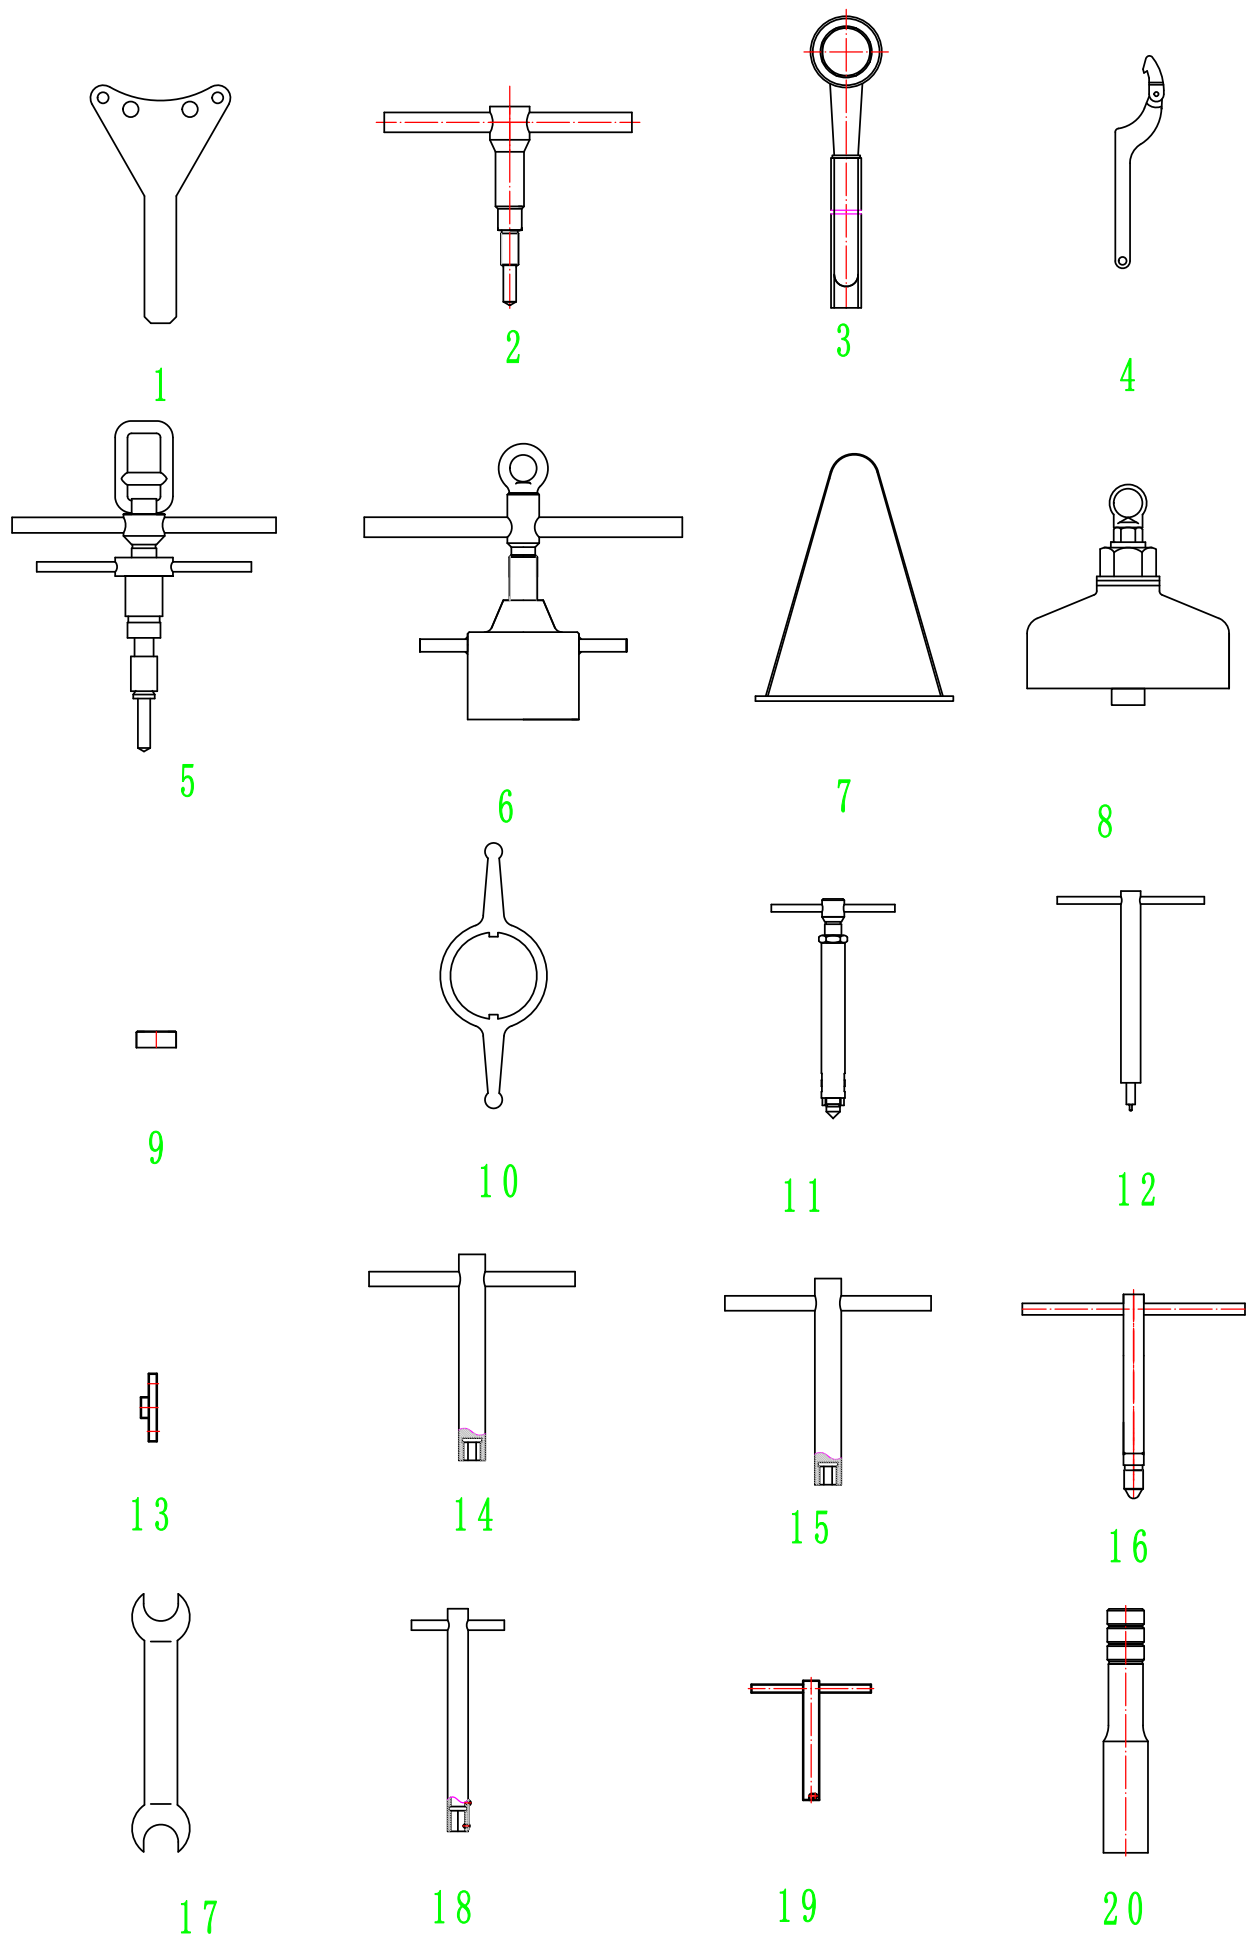

Fig 10 Special tools
12.1 Special tools(see attach fig. 10). The details see table ten.